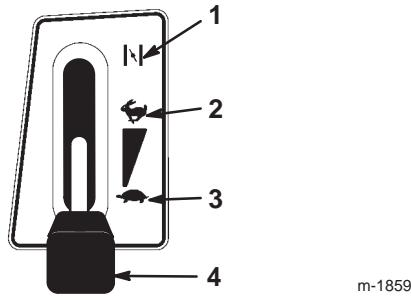

Figure 8
- Shift the throttle lever to Choke (Fig. 8).
- After the engine starts, slowly shift the throttle lever to Fast (Fig. 8). If the engine stalls or hesitates, shift the throttle lever back to Choke for a few seconds and then shift the throttle lever to Fast. Repeat this step as required.
- Shift the throttle lever to Slow (Fig. 8).